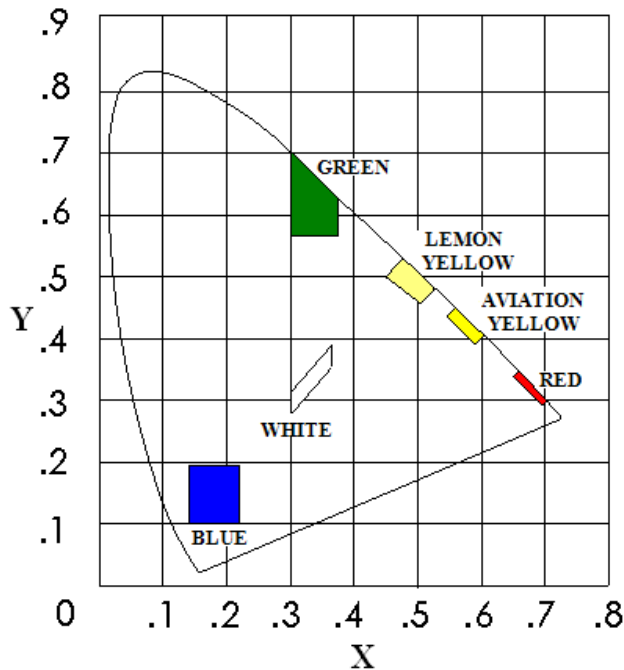

Figure 32 - CIE 1931 chromaticity diagram - LED
1. The colors are expressed as "x" and "y" coordinates on the standard 1931 CIE chromaticity diagram. Illuminated colors, measured as specified herein, shall be within the limits bounded by the coordinates listed for each color (see figures 32 and 33).